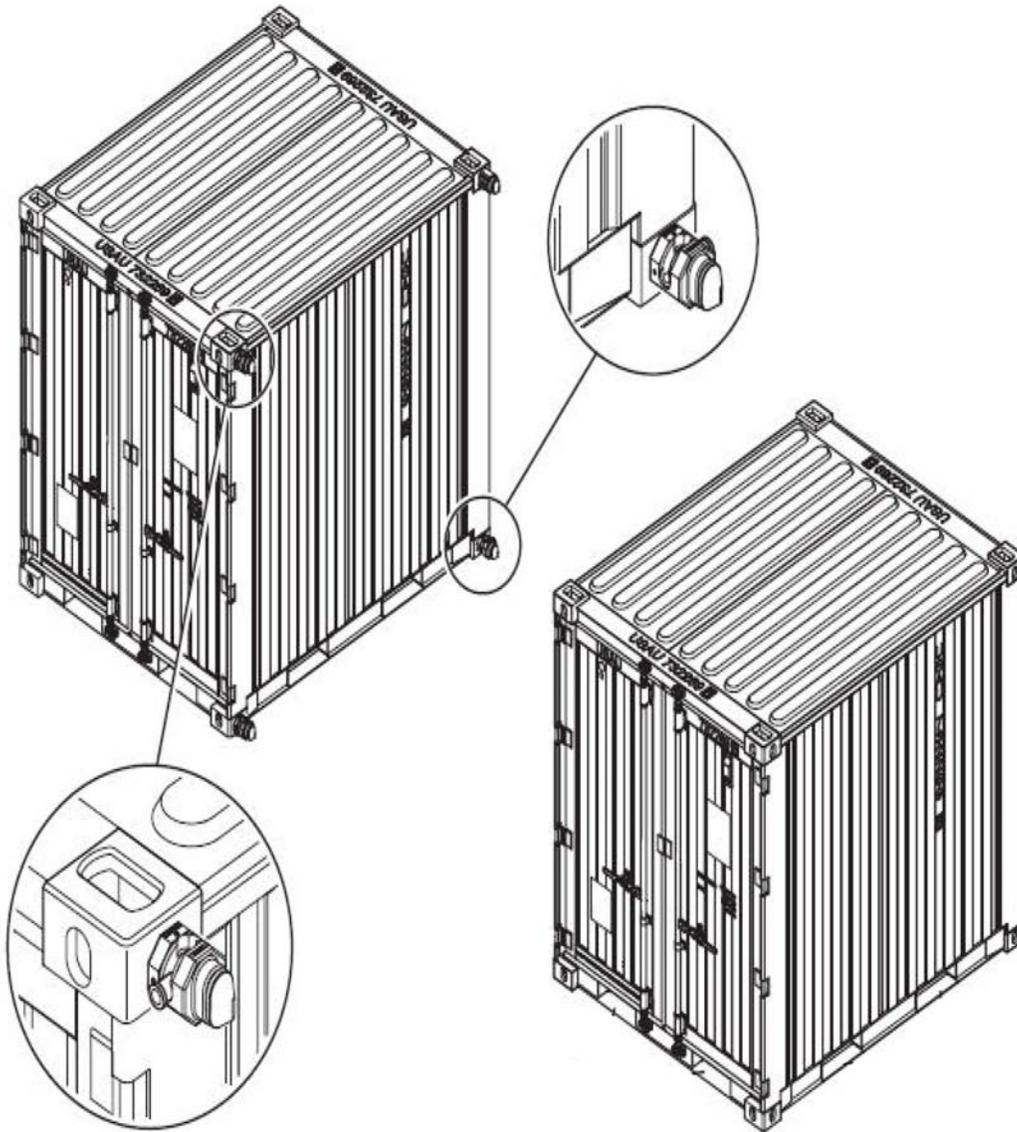

Figure 1-8. Container Connection.
- (11) Insert the second, third, and fourth container couplers in the remaining ISO apertures as shown in Figure 1-8.